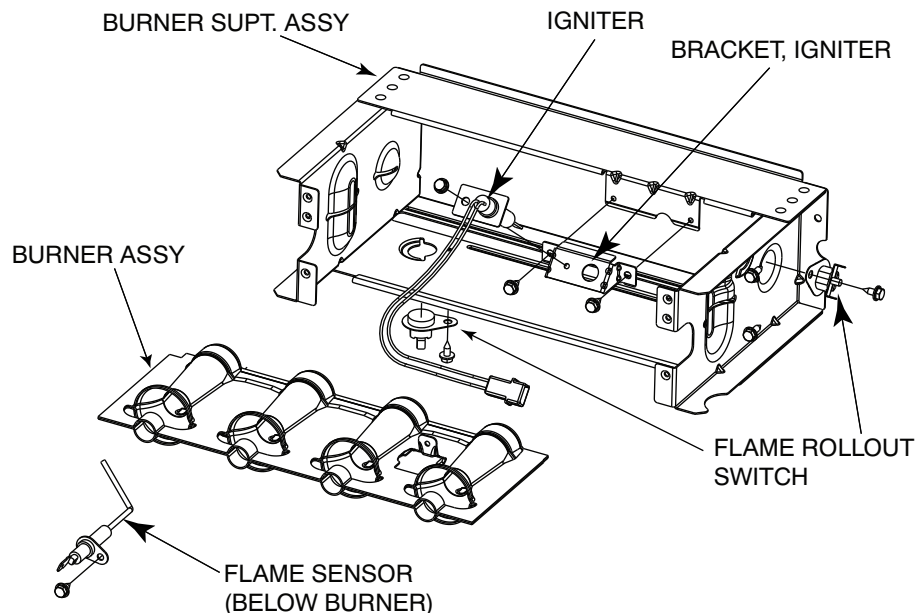

Fig. 67 - Burner Assembly
Refer to Fig. 67.
- a. Using a 1/4-in. driver, remove the two screws securing the igniter mounting bracket to the burner assembly. See Fig. 67.
6. To replace igniter and bracket assembly, reverse items 5a through 5d.
7. Reconnect igniter harness to the igniter, dressing the igniter wires to ensure there is no tension on the igniter itself. See Fig. 67.